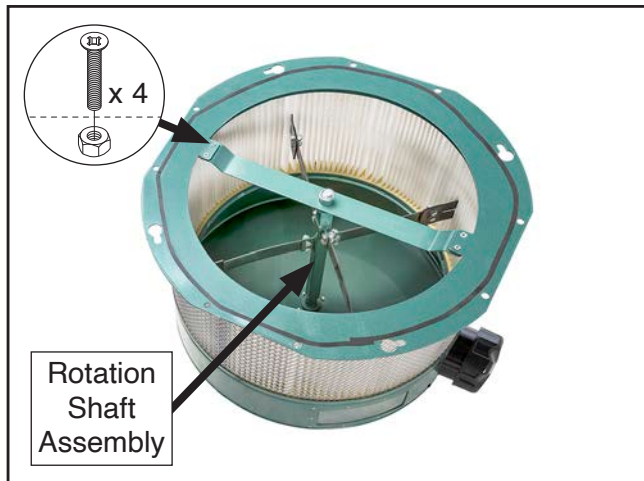

Figure 57. Location of rotation shaft assembly and fasteners.
9. Turn filter right side up, remove (4) flat head screws and hex nuts (see **Figure 57**), then lift rotation shaft assembly out of cartridge filter.